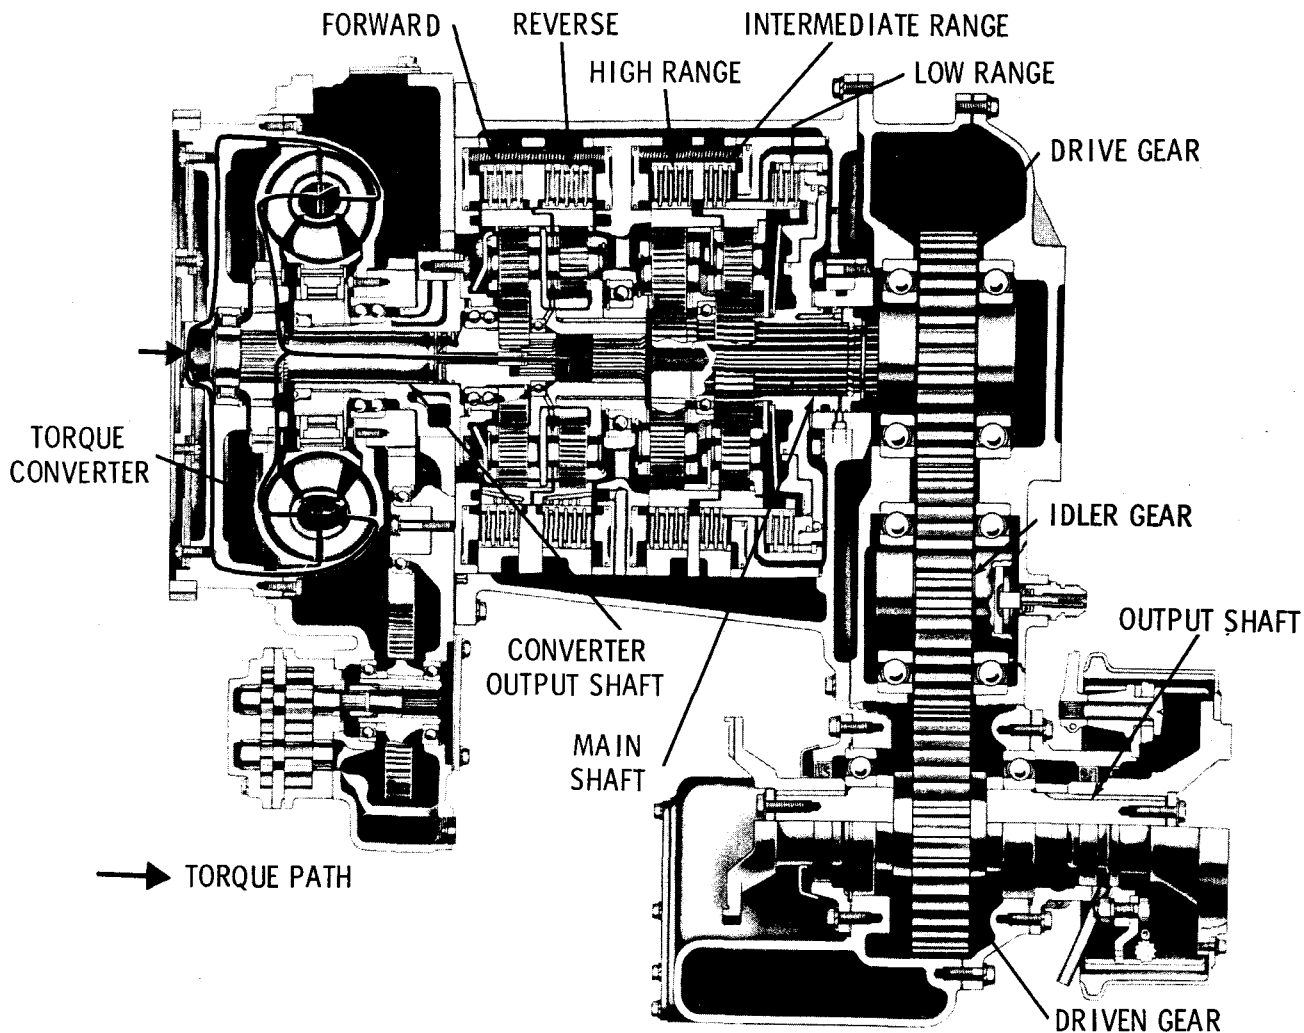

Fig. 2-1. Neutral—torque path
a. Torque Converter (fig. 2-1)
(1) Power is transmitted hydraulically through the torque converter. The engine drives the torque converter pump. The pump throws oil against the vanes of the turbine, imparting torque to the converter output shaft.
b. Neutral (fig. 2-1). Torque produced in the torque converter is not transmitted beyond the forward sun gear. This is true because no clutches are engaged, and the gearing is free to rotate.